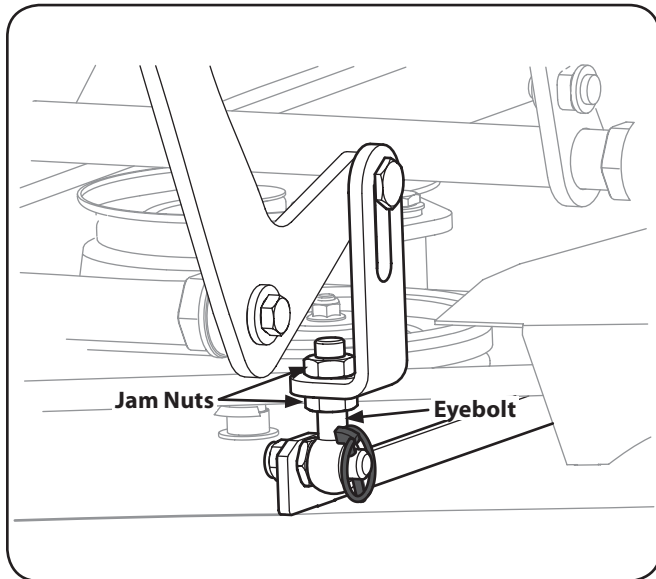

Figure 6-2
- Adjust the eyebolt at the left front of the deck so that the blade-to-ground height at the right outside blade tip matches that of the left outside blade tip. This is done by loosening the jam nuts on the eyebolt and tightening the upper nut to raise the deck and loosening the nut to lower the deck. The right outer blade tip height is fixed by the right, front eyebolt so you must adjust the left outer tip to match it. See Figure 6-2.
- Loosen the jam nuts at the rear left and right of the deck eyebolts. Refer to Figure 6-2.